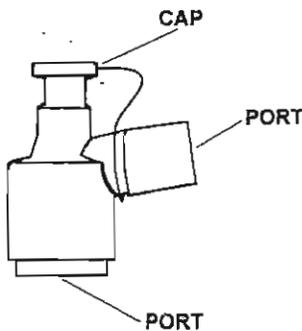

Figure 1-7. Adapter.
(6) *Adapter (fig 1-7)*. The adapter and color-coded plastic caps are used to connect the fiberoptic bronchoscope to ventilation equipment circuits.